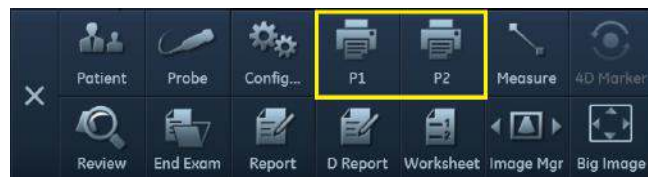

Figure 13-1. The printer control on the operation panel
The printer device is controlled from the **P1/P2** tab on the operation panel on the shortcut bar (see Figure 13-1).
1. Select **P1/P2** on the shortcut bar (see Figure 13-1).